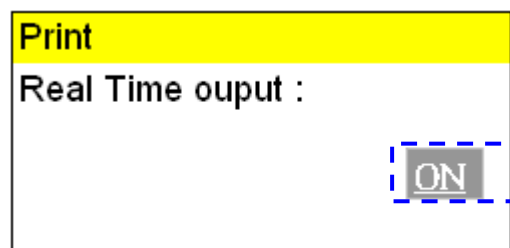

Figure 126
- B. Press  button to the editing mode as shown in Figure 126.